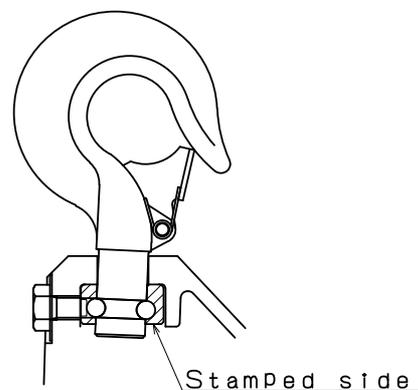

Fig.16
Install Hook holder(7) so the non-stamped side bears the load (See Fig. 16).